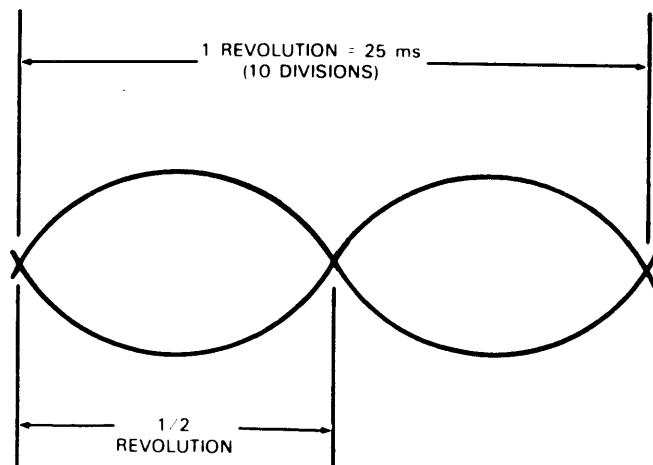

FIGURE 5-10. HEAD ALIGNMENT READ SIGNAL AT ONE REVOLUTION
3. Select the READ mode with the tester. When the head starts reading, the scope trace should resemble the curve in Figure 5-10.
- c. A read signal should appear on the scope; the trace will resemble the curve in Figure 5-10.